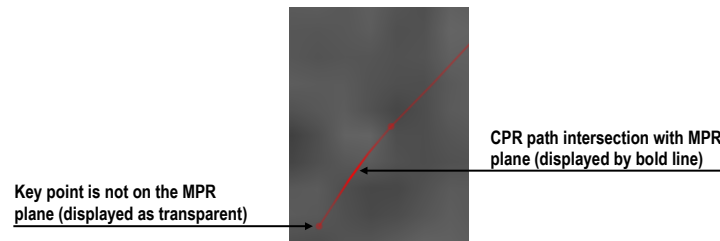

**Figure 298 – Path defining tools**
The CPR path is represented by a Bezier curve interpolating defined 3D points (key points). The number of key points is unlimited. Any changes performed to the CPR path are immediately reflected by CPR view. TomoCon provides two different modes for defining the CPR path key points (see Figure 298):
When adding a new or editing existing key point, it may be useful to move all orthogonal MPR planes to that key point to make following adjustments easier. To do so, check **Center orthogonal MPR** check box (see Figure 298).
1. Click  **Add path points** button (see Figure 298). The path is displayed in red.
1. Click  **Edit path points** button (see Figure 298). Path is displayed in green.
1. Click  **Edit path points** button (Figure 298). Path is displayed in green.